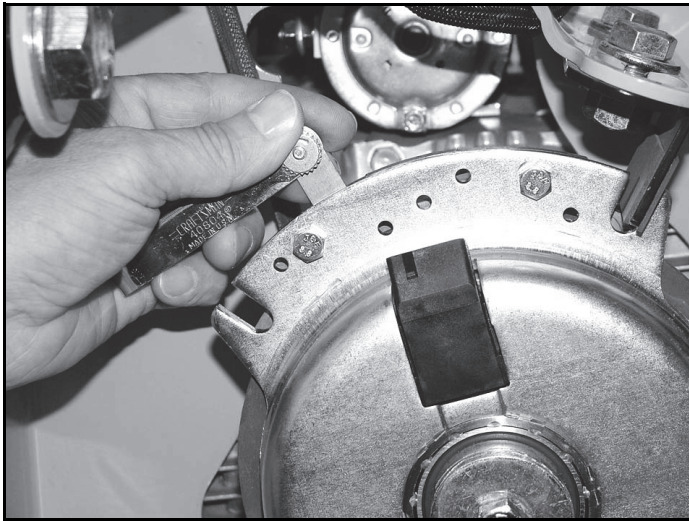
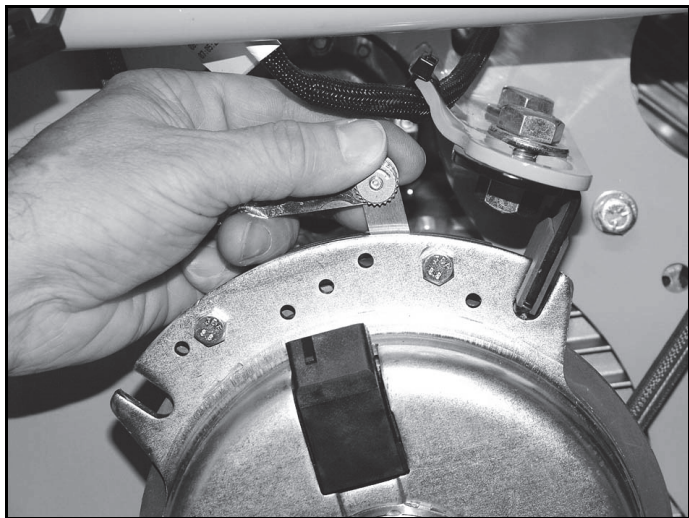

Figure 4-24
Figure 4-25
5. Using a .015" thick feeler gage, verify that a gap is present between the rotor and armature face on both ends of the brake pole as shown. Figure 4-24 and Figure 4-25